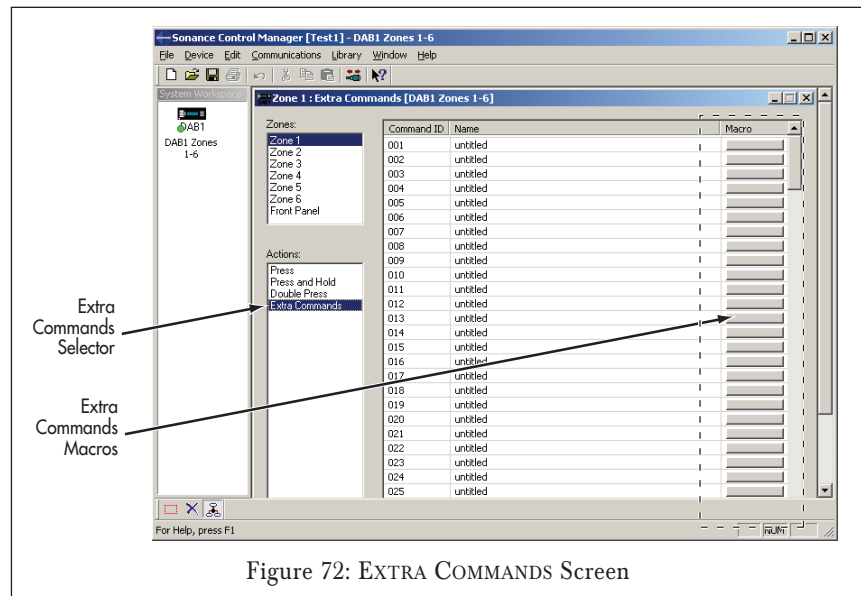

Figure 72: EXTRA COMMANDS Screen
In addition to the macros that can be triggered by the DAB1 Main and Numeric keypad buttons, the DAB1 can also execute up to 200 additional macros per zone. These macros are stored on the EXTRA COMMANDS action layer of each zone's ZONE PROGRAMMING Screen (see *Figure 72*).
1. Open the Sonance Control Manager, select a DAB1 unit and select EXTRA COMMANDS (see *Figure 72*, on page 50).